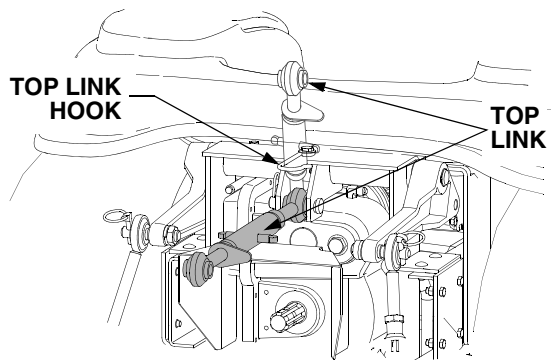

Figure 21
- Pivot the link hook from its storage position to the center and lower the top link into the hook of the rod. See Figure 21.